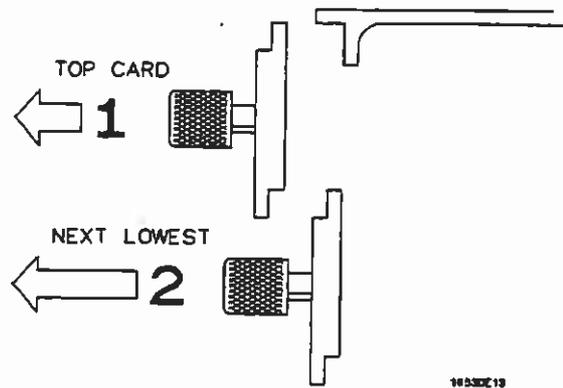

Figure A-1. Endplate Overlap (Removing)
- c. Starting from the top, begin pulling card(s) and filler panel(s) out half way. See figure A-1.